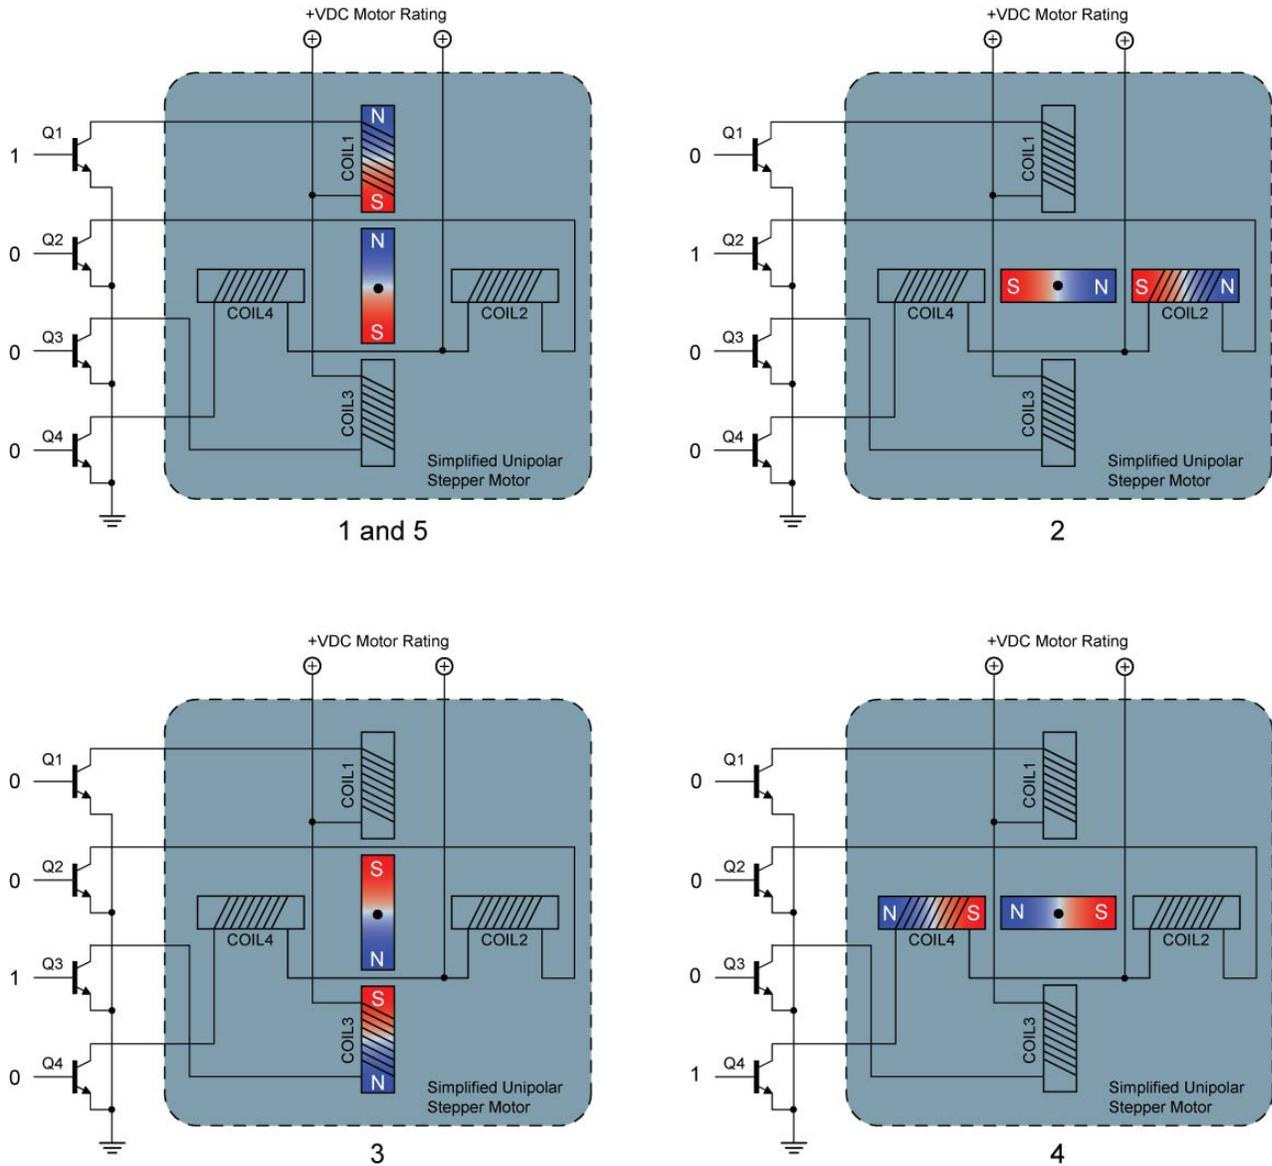

Figure 8: Single Stepping a Unipolar Stepper Motor
- In our illustration in Figure 8, the stepper motor rotates 90 degrees in each step. In a real stepper motor, the steps are smaller; for example, the lab in this lesson uses a stepper motor with a resolution of 1.8 degrees per step or 200 steps per revolution. Although this may appear to add complexity to the process of driving the motors, the operation is identical to the simple 90 degree motor we used in our illustration.